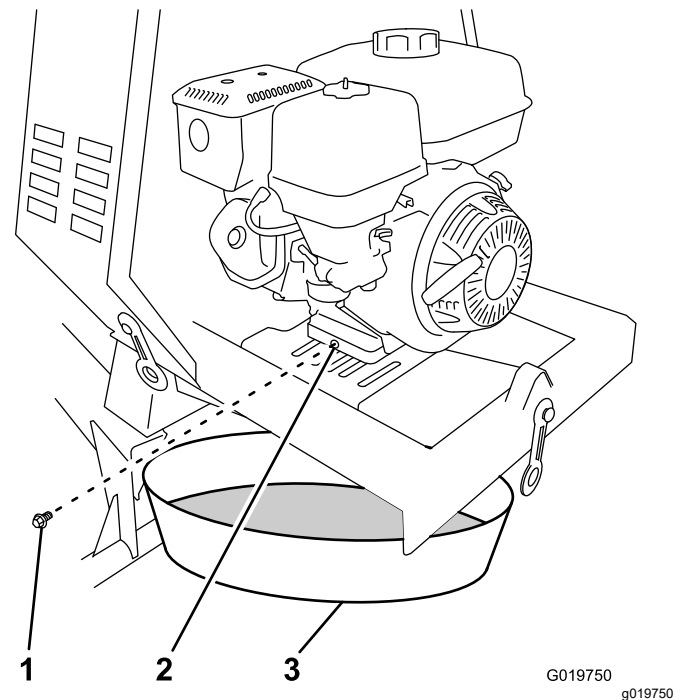

Figure 43
3. Place a drain pan under the oil-drain hole of the engine (Figure 43).
4. Remove the drain plug and catch the oil in the oil-drain pan (Figure 43).
5. When the oil has drained completely, install the drain plug with a new washer (Figure 43).